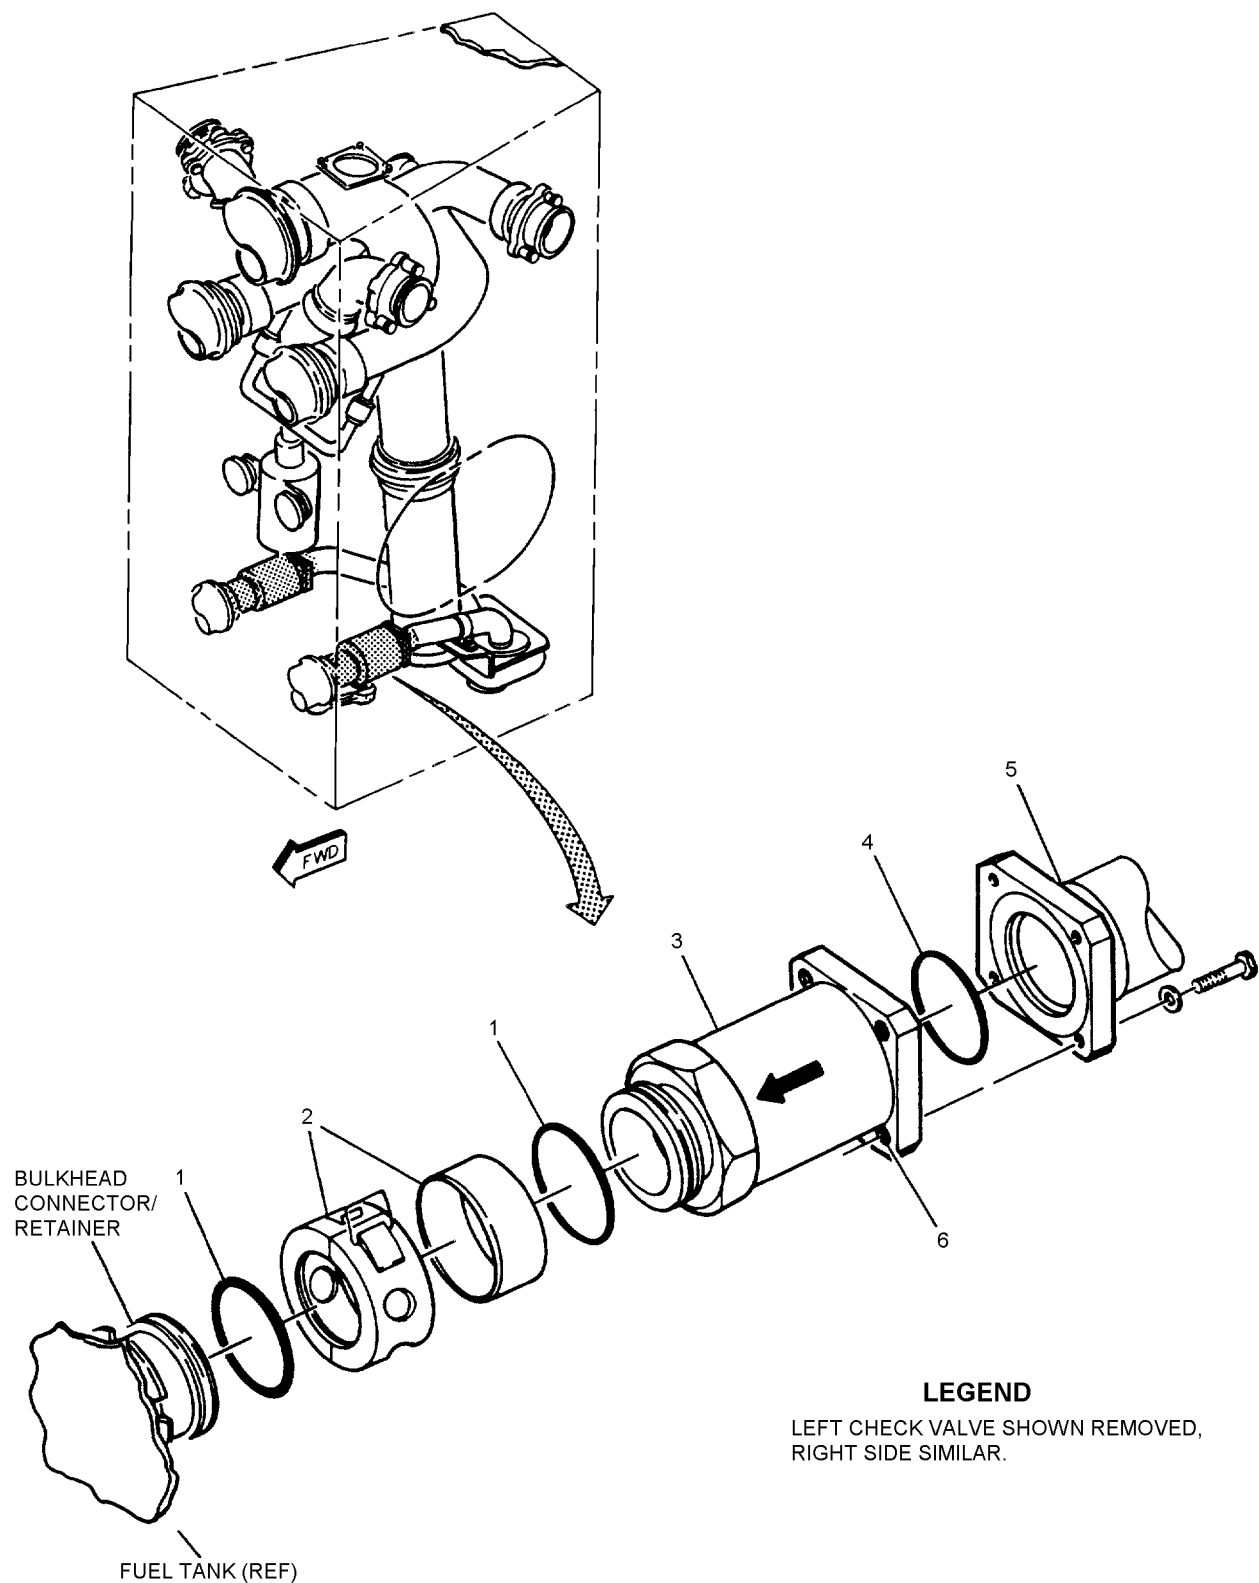

Figure 1. Vent Tank Scavenge Check Valve (5VAS602 or 5VAT612) (Sheet 1)
- c. Remove coupling (2, figure 1) and packings (1).
- d. Remove valve (3), packing (4) and attaching parts.
b. Lubricate new packings (1 and 4, figure 1) with petrolatum.
c. Prepare mating surfaces of valve (3, figure 1) and tube (5) for electrical bond (A1-F18AC-LMM-000).
d. Position valve (3) and packing (4) and install attaching parts.
e. Install packings (1) and coupling (2).